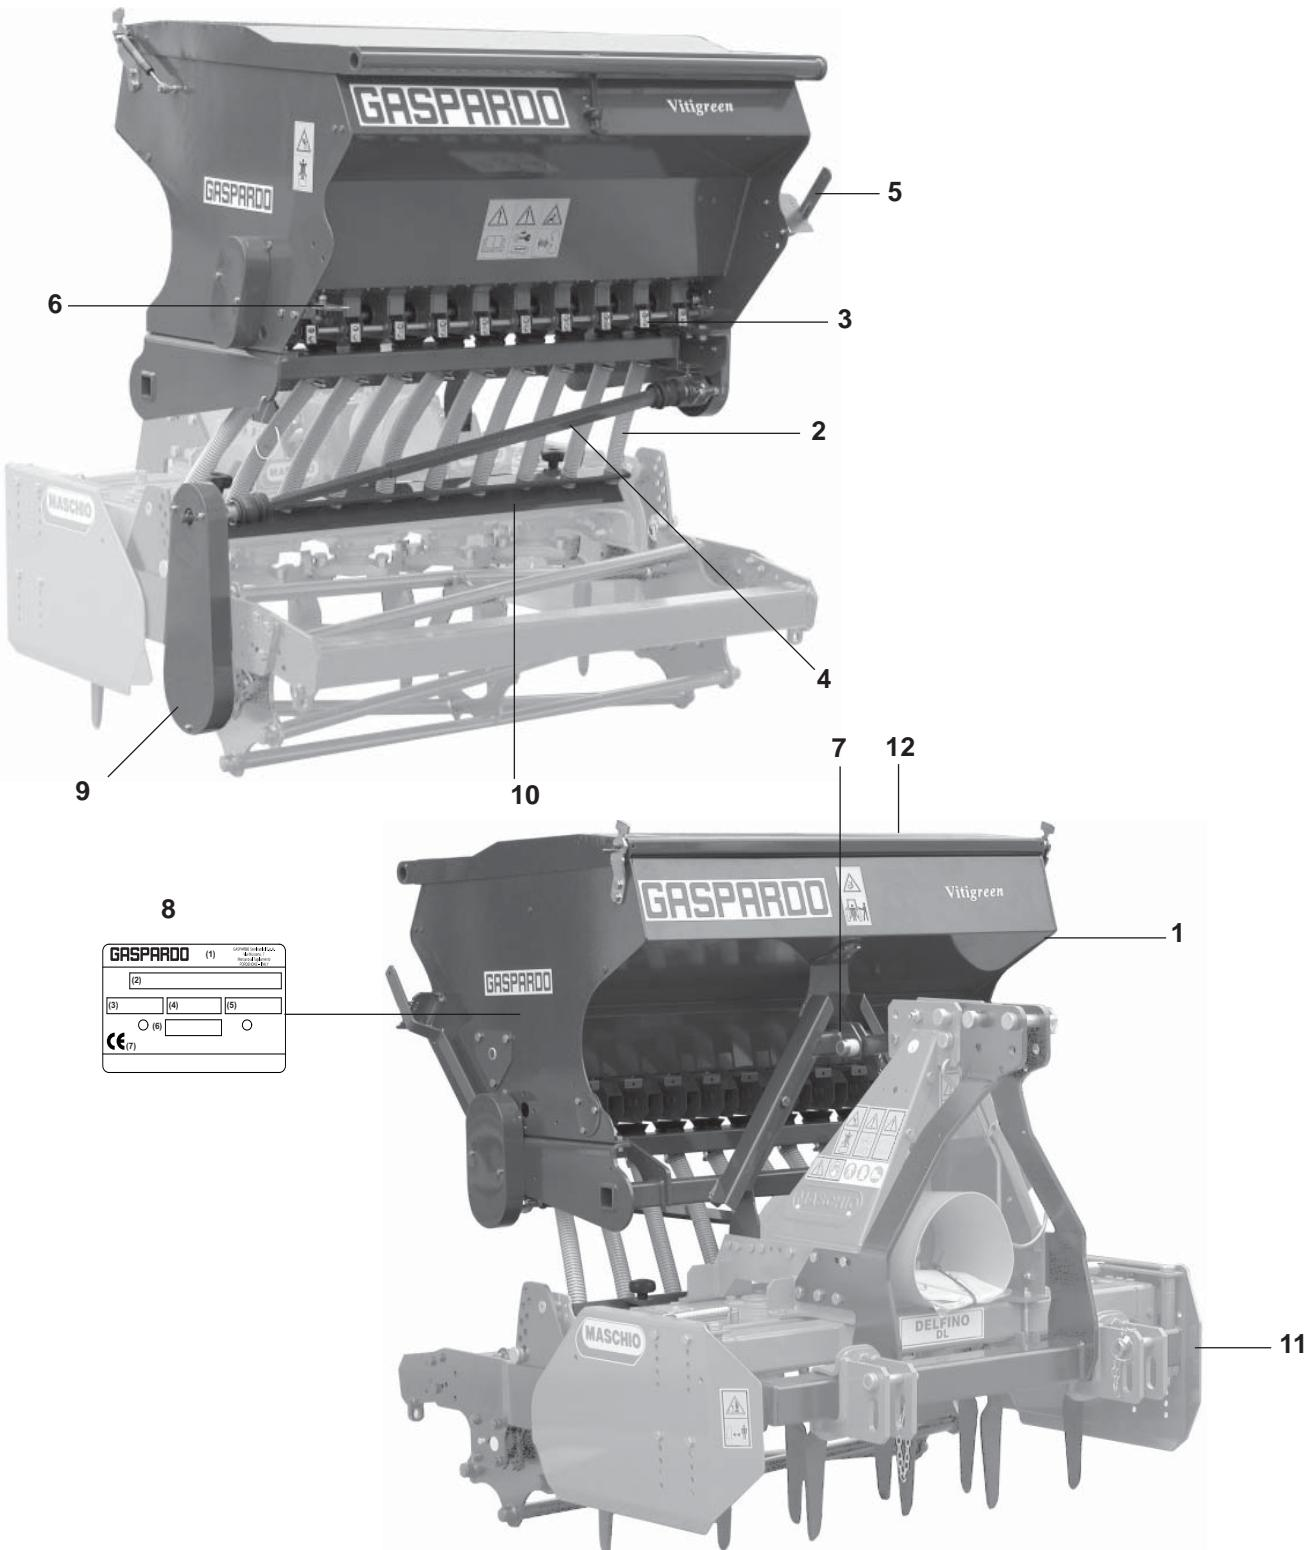
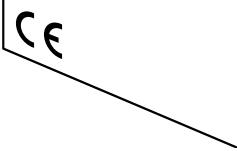

fig. 3
fig. 4
The mass of the machine is on the identification Plate (8 Fig. 3). Stretch the rope to keep the machine level. Adjust the length of the ropes to balance the load. The hook points can be detected by finding the «Hook» symbol (7 Fig. 4).
1.7 ASSEMBLY DRAWING (Fig. 3)
The signs described are reproduced on the machine (Fig. 3). Keep them clean and replace them if they should come off or become illegible. Carefully read each description and learn their meanings by heart.